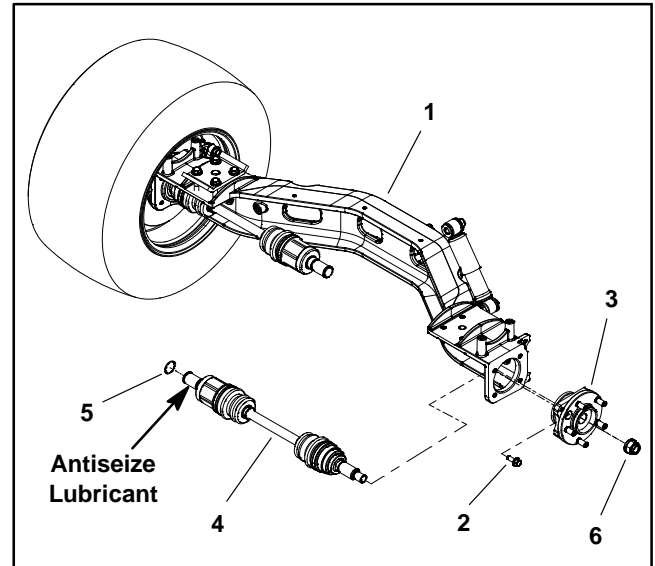

Figure 46
A. Using wheel hub hole to access flange head screws, remove screws that secure wheel hub assembly to rear axle (Fig. 46). It is not necessary to remove wheel hub assembly from CV axle so spindle nut does not have to be loosened.